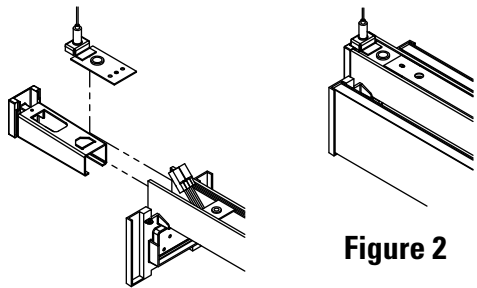

Figure 2
- B. The first suspension in each run should be from the power feed end set, which contains power cord and an end-cap. (Fig. 2)
- A. Install the non-power end cap to the end of run. (Fig. 2)